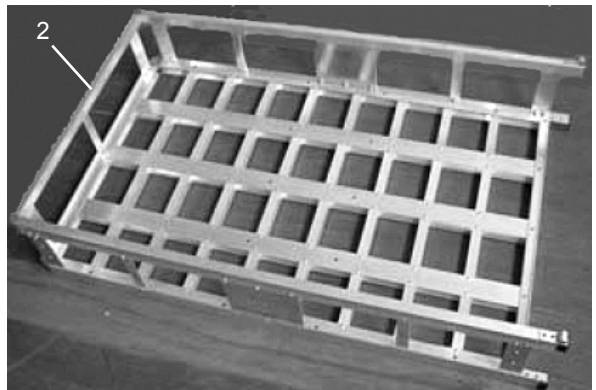

Figure 2
3. Use the small Bolts and Nuts to connect the U-Brace (2) to the top of the Supports. See Figure 2.